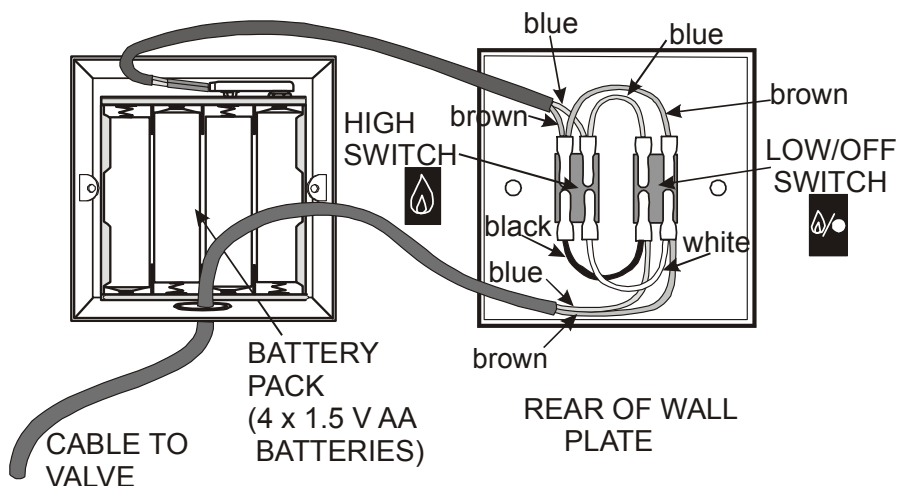

Figure 78
3. Make the connections on the wall switches as shown in **Figure 78**.